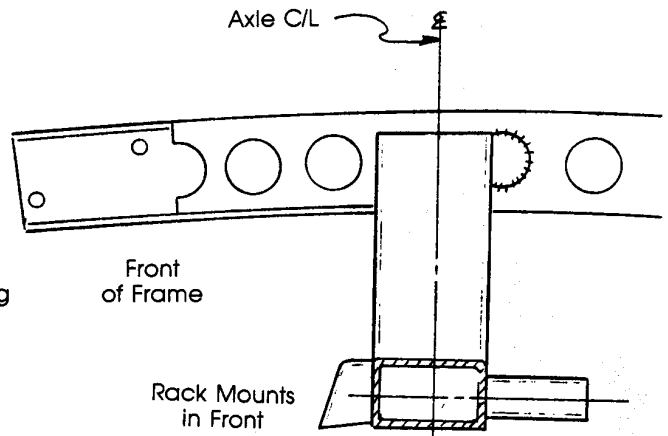

Figure 2
5. Trial fit the new crossmember onto the rails. It should be located with its centerline on the marked axle centerline. See Figure 2. The frame is approximately 31-1/4" wide at the axle centerline. Pull the rails in to fit the crossmember. There may be a gap between the crossmember uprights and the frame rails at the 31-1/4" dimension. Reproduction frame rails are sometimes thinner than stock. If this is the case, a spacer of filler may be required. If the crossmember is too wide, grind it to fit snug. It should be seated flat against the bottom of the frame rails. Clamp in place, double check your measurements, making sure crossmember is squared on the frame, then weld in place. Weld all around, top, sides and bottom. This crossmember keeps the front frame rails from twisting and flexing, so good strong welds are required.